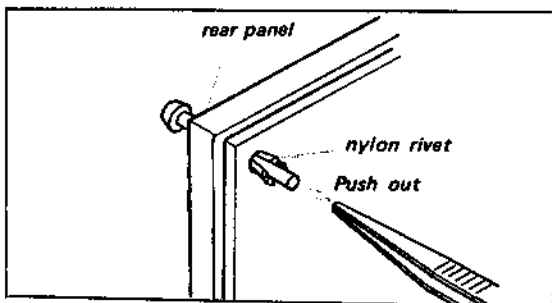

Fig. 2-13.
1. Remove the nylon rivets securing the defective component by pushing its end with a tweezers as shown in Fig. 2-13.